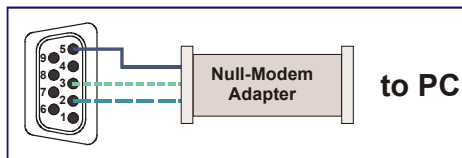

Figure 4: Straight Cable RS-232 Connection with a Null Modem Adapter
**Method B (Figure 4)**—Connect the RS-232 9-pin D-sub port on the unit via a straight (flat) cable to the null-modem adapter, and connect the null-modem adapter to the RS-232 9-pin D-sub port on the PC. The straight cable usually contains all nine wires for a full connection of the D-sub connector. Because the null-modem adapter (which already includes the flow control jumpering described in Method A above) only requires pins 2, 3 and 5 to be connected, you are free to decide whether to connect only these 3 pins or all 9 pins.